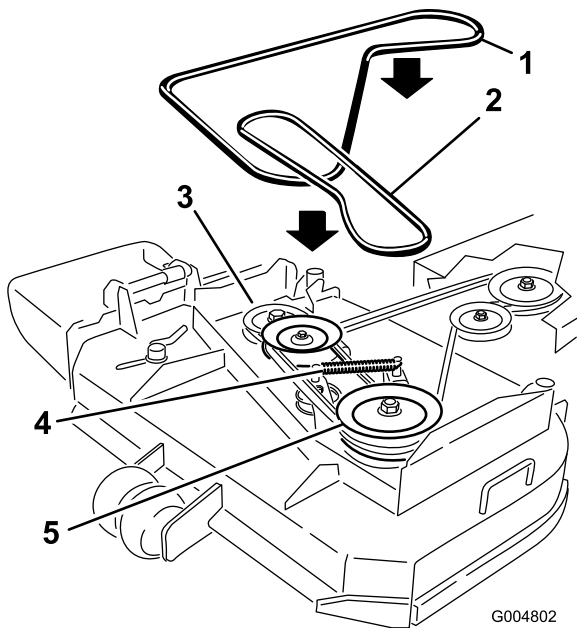

Figure 37
6. Disconnect the idler arm spring to relieve tension on the idler arm and idler pulley, then remove the worn mower belt (Figure 37).
7. Install the new mower belt around the two outside spindle pulleys, the idler pulley, and in the lower groove of the double spindle pulley (Figure 37).
8. Connect the idler arm spring (Figure 37).
10. Adjust the belt guide an 1/8 inch (3 mm) from the belt (Figure 37).